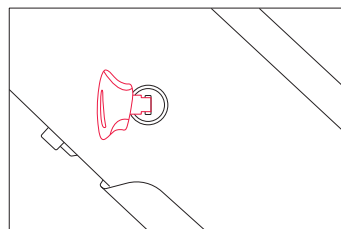
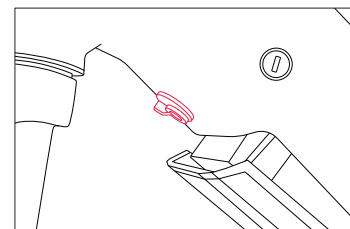

Figure 5
Figure 6
Step 2: Use the key to unlock the battery (fig. 5). While holding the battery with one hand, detach the battery by turning the release switch located on the underside of the frame (fig. 6).